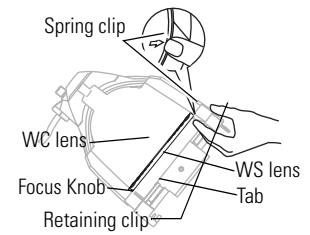

Figure 3
6. Press the spring clip with your finger to release the lens (**Figure 3**).
1. Position the fixture with the front of the unit (the lens side) facing you, and tilted slightly (**Figure 3**).